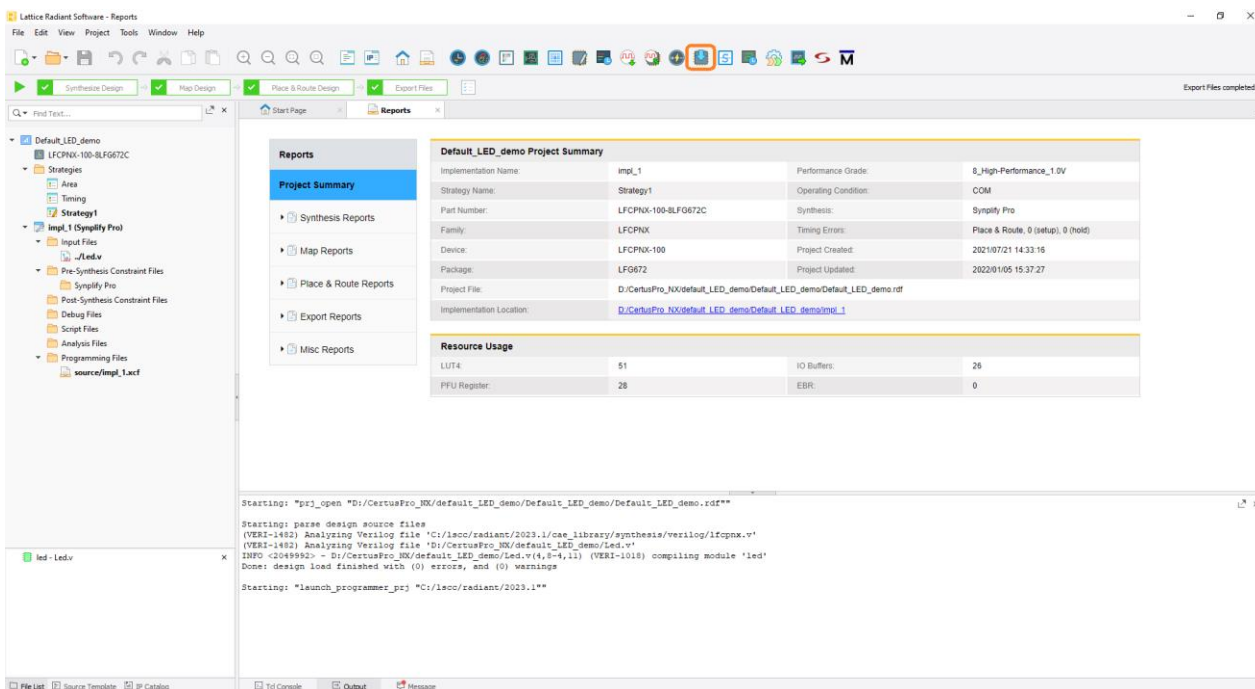

Figure 4.2. Radiant software – Radiant Programmer
3. In Radiant software, click **Programmer**, as shown in Figure 4.2.